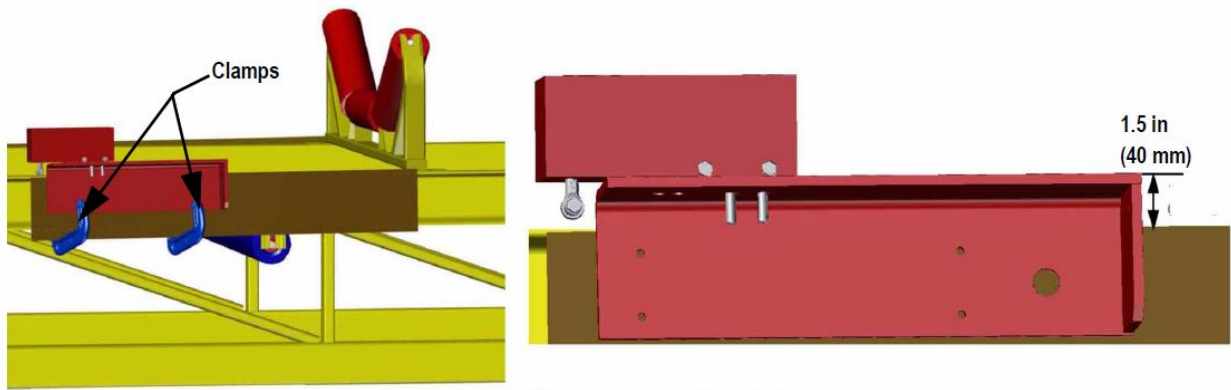

Figure 2-5. Use Clamps to Position Weldment
7. Using clamps, position each weldment into the proper position. The top of the weigh frame should be positioned 1.5 inches (38.1 mm) above the stringer to allow clearance for the idler station when bolted back into place (see Figure 2-5). Ensure the long end of the lever arm points in the same direction as the belt travel.